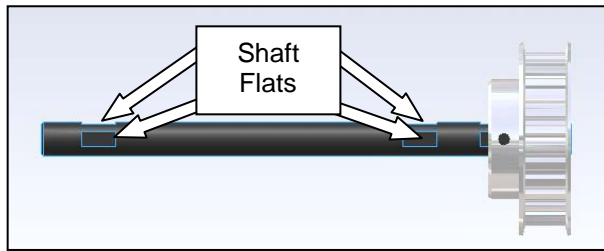

Figure 3-157. Transfer Shaft
- Once pulleys are aligned, tighten the set screws to locate the pulley(s) on the transfer shaft. The shaft has 2 flat areas 90° apart for the set screws to seat on. **Be sure the set screws are tightened onto the flat areas of the transfer shaft** (Figure 3-157). Also tighten the clamping collar once it is moved tight to the nylon washer by the middle frame plate. This will capture the transfer shaft to prevent movement during operation.